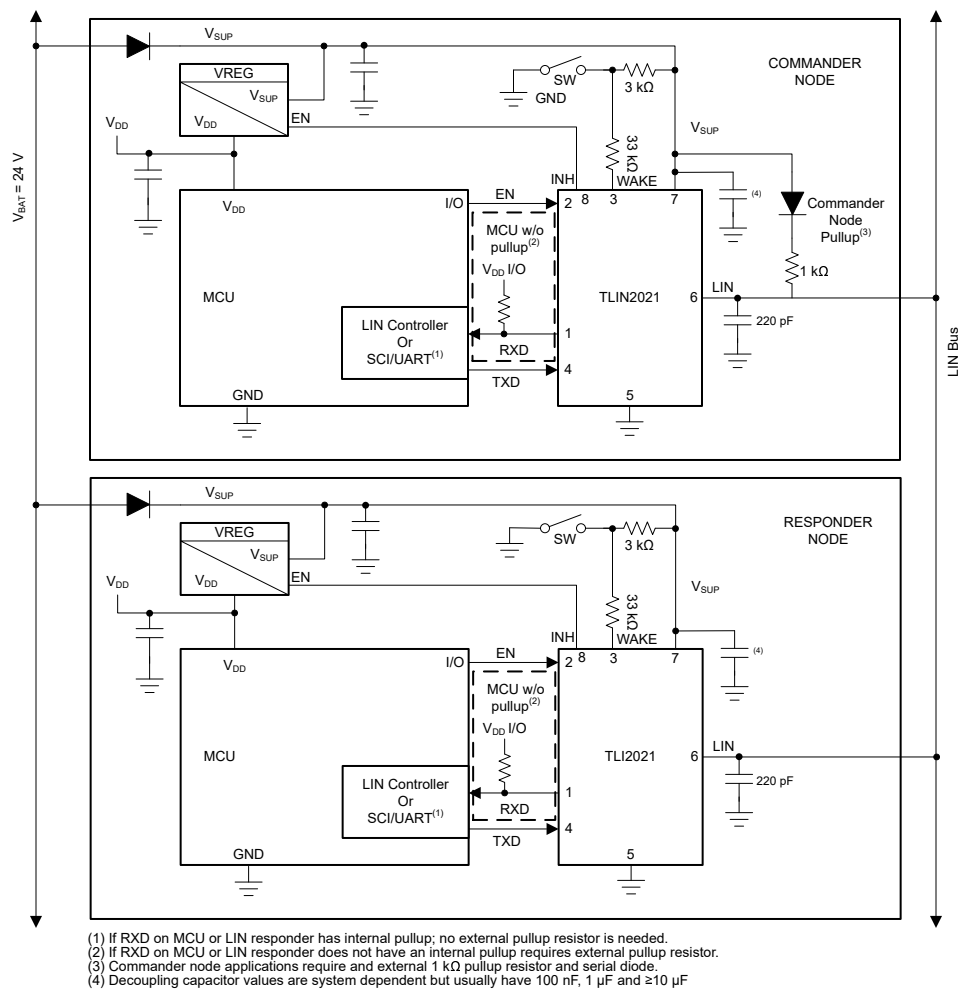

图 10-1. Typical LIN Bus
The device integrates a 45 k Ω pull-up resistor and series diode for responder applications. For commander applications, an external 1 k Ω pull-up resistor with series blocking diode can be used. 图 10-1 shows the device being used in both commander and responder applications.
- **Pin 2 (EN):** EN is an input pin that is used to place the device in low-power sleep mode. If this feature is not used the pin should be connected to the supply voltage for the controller through a series resistor using a pull-up value between 1 k Ω and 10 k Ω . Additionally, a series resistor may be placed on the pin to limit current on the digital lines in the case of an over voltage fault.
- **Pin 6 (LIN):** The LIN pin connects to the TLIN2021-Q1 to the LIN bus. For responder applications a 220 pF capacitor to ground is implemented. For commander applications an additional series resistor and blocking diode should be placed between the LIN pin and the V_{SUP} pin, see 图 10-1.